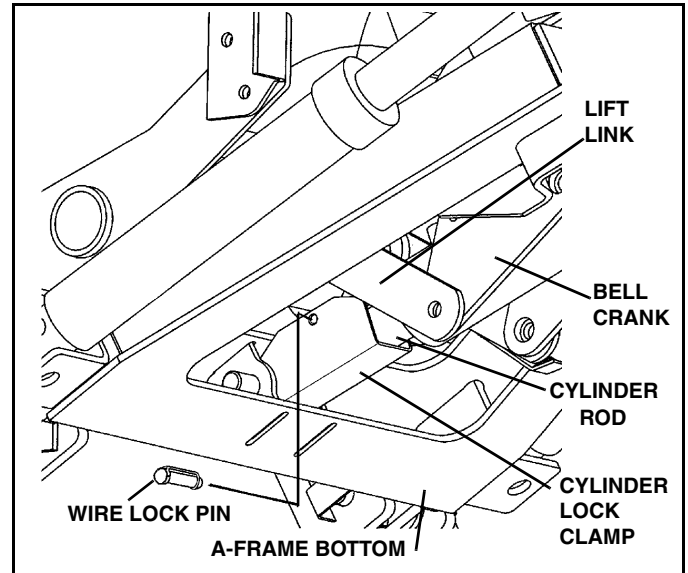

Figure 1-25
5. Position the cylinder lock clamp around the exposed (chrome) portion of the lift cylinder with the open side of the cylinder lock up. Install the pin. (See Figure 1-25).